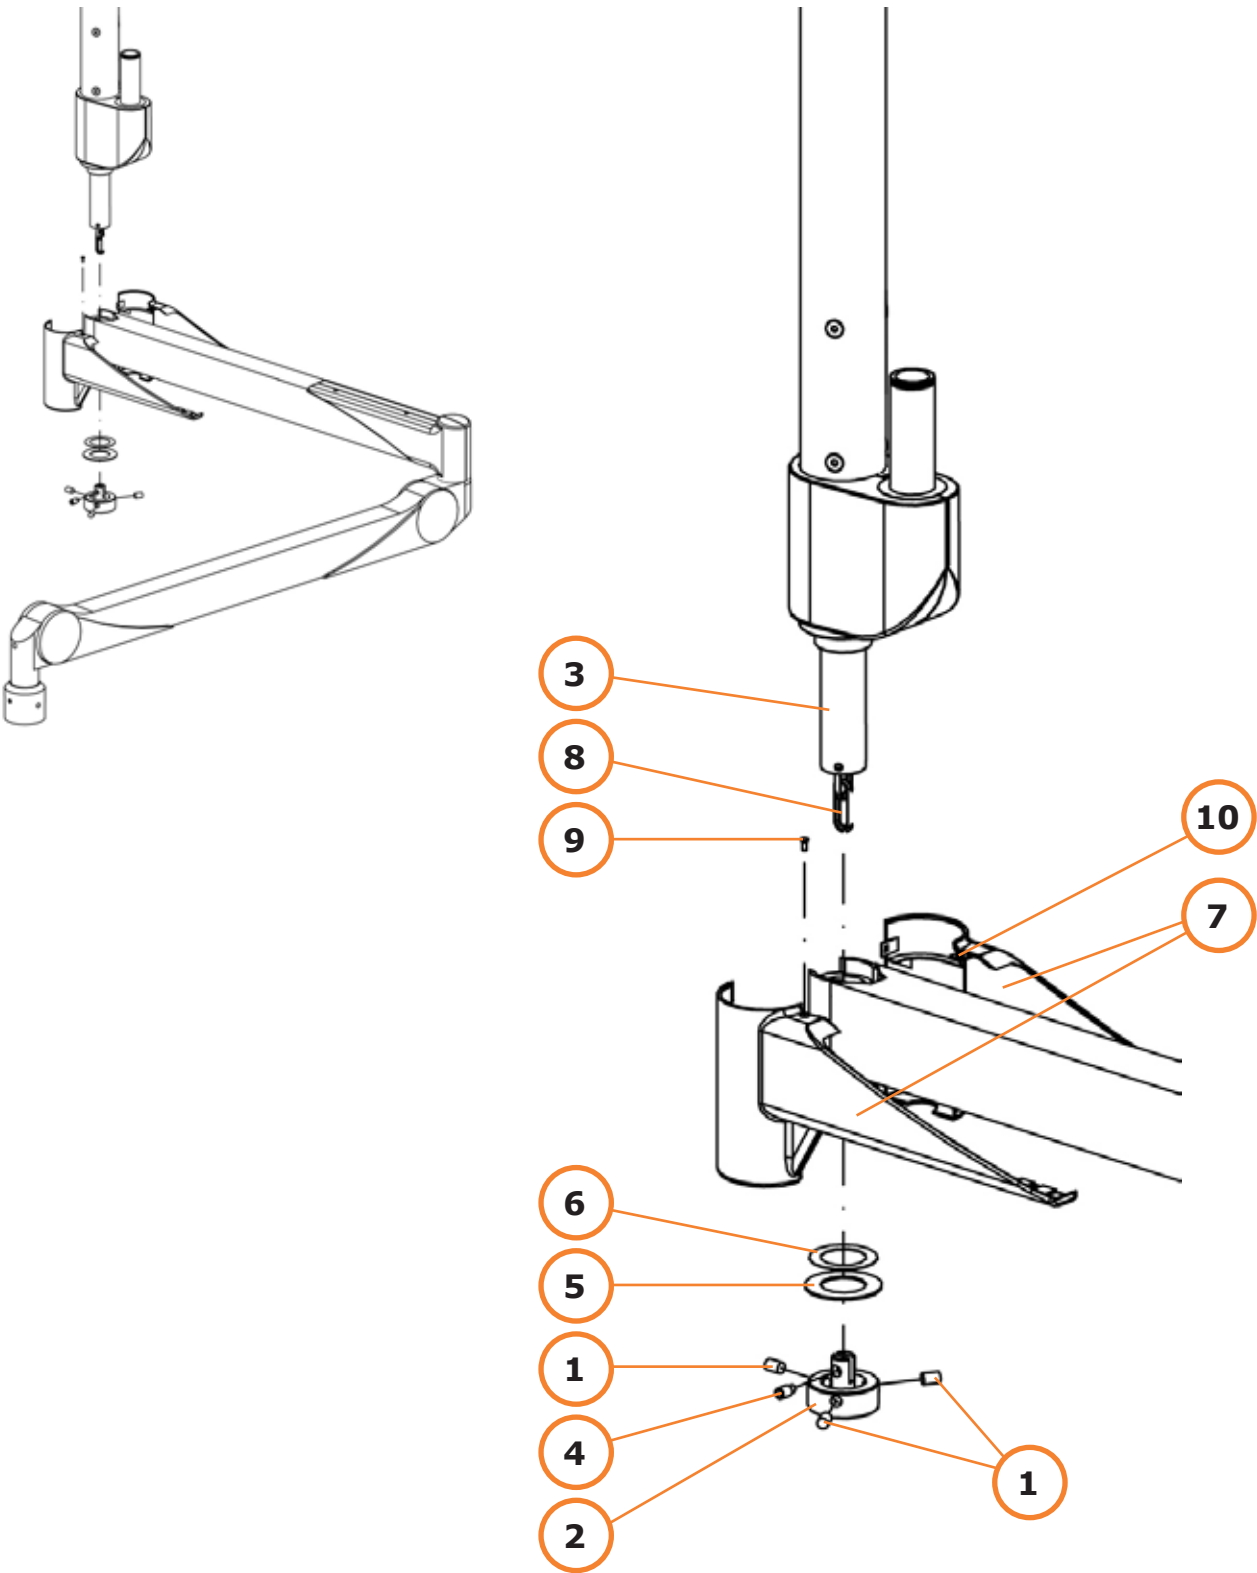

Fig. 21
- 9.2.1 Loosen the 3 set screws (1/Fig. 21) and carefully slide the locking ring (2/Fig. 21) off the mounting post (3/Fig. 21).
- 9.2.2 Remove the lock screw (4/Fig. 21) from the locking ring (2/Fig. 21).
- 9.2.3 Remove the protective cap from the mounting post (3/Fig. 21).
Store screws (1,4/Fig. 21), locking ring (2/Fig. 21) and both washers (5,6/Fig. 21) for re-use.
NOTE: If the two plastic halves of the arm cover (7/Fig. 21) are already connected, gently separate them.
- 9.2.4 Mount the extension/spring arm combination firmly onto the 360° mounting post (3/Fig. 21).
- 9.2.5 Place first the metal washer (6/Fig. 21) and then the plastic washer (5/Fig. 21) under the extension arm, onto the 360° mounting post (3/Fig. 21).
- 9.2.6 Connect the end of the safety chain (8/Fig. 21) with the locking ring (2/Fig. 21).
- 9.2.7 Apply Loctite® 270 to the lock screw (4/Fig. 21) and tighten it into the locking ring (2/Fig. 21) with 20 Nm torque.
- 9.2.8 Mount the locking ring (2/Fig. 21) with the two washers (5,6/Fig. 21) on the 360° mounting post.
- 9.2.9 Apply Loctite® 270 to the 3 set screws (1/Fig. 21) and secure the locking ring (2/Fig. 21) to the mounting post (3/Fig. 14) with them using 20 Nm torque.
- 9.2.10 Remove the arm cover (7/Fig. 21) from the ceiling column shipping carton. Use this instead of the arm cover supplied with the Portegra2 extension/suspension.
- 9.2.11 Place the speed nut (10/Fig. 21) on the screw hole tab of the the arm cover. Attach the two halves of the cover underneath the locking ring (2/Fig. 21); carefully fit them together and click the snaps into the grooves.
Make sure that the cover's screws (9/Fig. 21) are not screwed too tight, stripping the thread of the cover. Replace the cover if the screw hole has been stripped.
- 9.2.14 Insert and tighten the mounting screw (9/Fig. 21) into the thread provided.